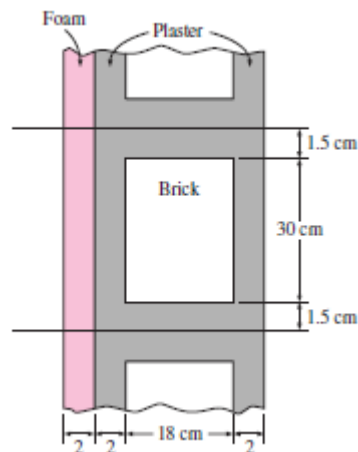

Fig. Q3C
- 3C.** A  $3.3\text{-m}$ -high and  $1\text{-m}$ -wide wall consists of a long  $18\text{-cm} \times 30\text{-cm}$  cross section of horizontal bricks ( $k = 0.72 \text{ W/m} \cdot ^{\circ}\text{C}$ ) separated by  $3\text{-cm}$ -thick plaster layers ( $k = 0.22 \text{ W/m} \cdot ^{\circ}\text{C}$ ). There are also  $2\text{-cm}$ -thick plaster layers on each side of the wall, and a  $2\text{-cm}$ -thick rigid foam ( $k = 0.026 \text{ W/m} \cdot ^{\circ}\text{C}$ ) on the inner side of the wall (refer Fig Q3C.) The indoor and the outdoor temperatures are  $22^{\circ}\text{C}$  and  $-4^{\circ}\text{C}$ , and the convection heat transfer coefficients on the inner and the outer sides are  $h_1 = 10 \text{ W/m}^2 \cdot ^{\circ}\text{C}$  and  $h_2 = 20 \text{ W/m}^2 \cdot ^{\circ}\text{C}$ , respectively. **(a) Draw resistance network for the system. (b) Determine temperature at foam and wall interface. (c) Total resistance imposed by the composite wall and (d) the rate of heat transfer through the wall.** **05**